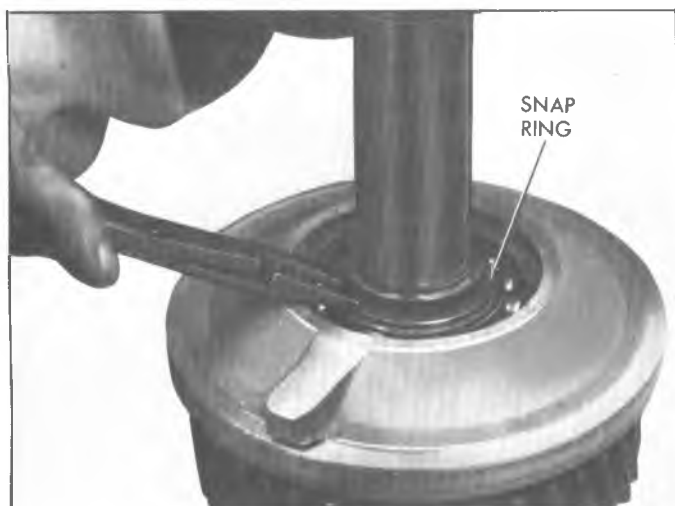

Fig. 12F—Removing Input Shaft-to-Bearing Snap Ring
2. Using snap ring pliers, remove snap ring retaining input bearing retainer assembly to shaft (fig. 12F) and remove bearing retainer assembly from shaft.